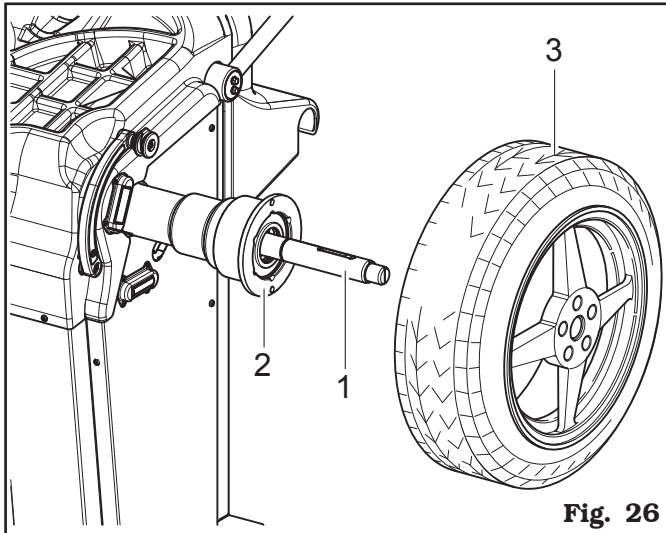

Fig. 26
- Clean the mandrel (**Fig. 26 ref. 1**) before fitting the wheel.
- Fit the wheel (**Fig. 26 ref. 3**) with the inside of the rim towards the wheel balancer, until the wheel is up against the support flange (**Fig. 26 ref. 2**).